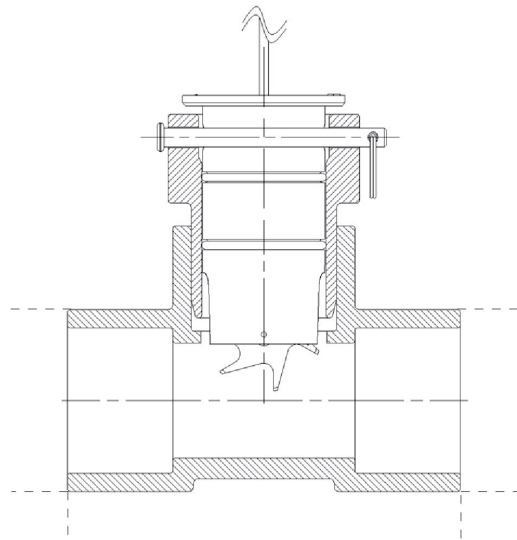

Figure 3: Flow sensor assembly in horizontal piping
2. When the flow sensor assembly is installed in horizontal piping, the preferred orientation is vertical, on top of the pipe (Figure 3). If trapped air or debris could potentially interfere with sensor operation, the sensor can be installed as much as 45 degrees off the vertical.